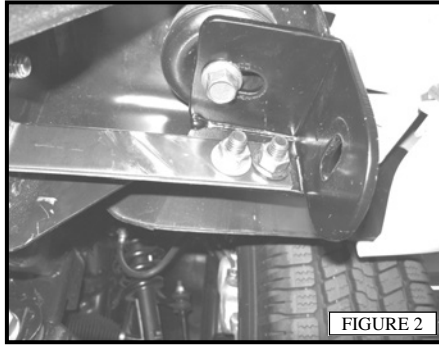

FIGURE 2
3. Install (1) front support bracket to the front mounting bracket using (2) M10 hex bolts, (2) M10 flat washers, and (2) M10 nylon insert lock nuts. Then secure the other end of the support bracket to the vehicle frame rail by installing (1) M12 hex bolt, (2) M12 flat washers, and (1) M12 nylon insert lock nut to the frame rail. Do not fully tighten at this time. (FIGURE 2,3,4,5)